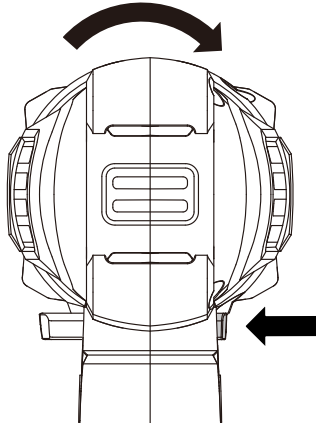

Figure 6-1
2. FORWARD / REVERSE ROTATION CONTROL (SEE FIG. 6-1 & 6-2)